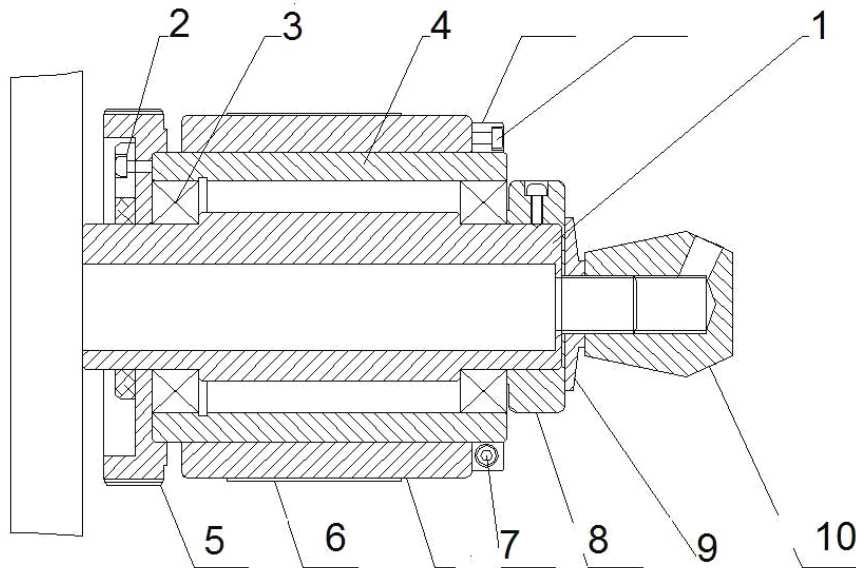

Fig.1-2
Twice diameter blanket cylinder is positioned by four screws' shaft, when sticking the blanket, loosen the screws, take the blanket cylinder off, stick the special double-side tape on the offset device, then paste the blanket with tidy level. ( If the double-side tape is not pasted on, you can grit with abrasive paper, because the dirty may be on the roller), then install it on the printing machine, press it with embossing rolling ③ turn the machine to press the blanket flat, the shaft core of the press printing roller is a kind of structure of eccentric structure, it can adjust the pressure. The shaft core of printing roller② is also a kind of eccentric adjusting structure ( illustrated Fig.1-2), it is used in adjusting its printing pressure. The inking transmission circuit are composed of wavers ④ , inking roller⑤, inking supplying⑥, glue roller, duct used for storing ink, glue roller and ink roller are used for transmission ink, the wavers is used for evening the ink. The ink can be controlled by screws ⑧ adjusting. If it needs stopping, turn the OFF hand wheel.
Illustrated as Fig. 1-2, loosen the screws of positioning sleeve ⑦, knock the plate cylinder ⑥ by rubber hammer and move it left and right